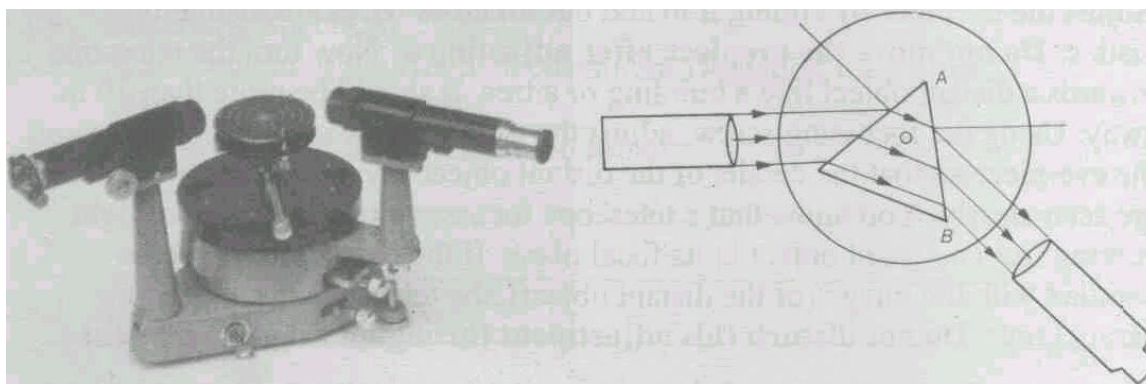

Fig. 5.1 Observing spectrum
2. Mount the prism on the prism table such that its centre coincides with the main axis of the spectrometer and its side  $AB$  is normal to the collimator, as shown in Fig.5.1.